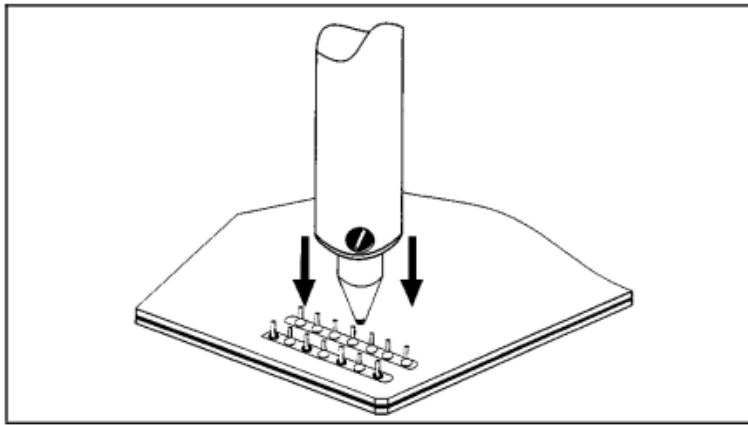

Figure 2 Position Tip
- (e) Tin tip with solder. (See Figure 2.)